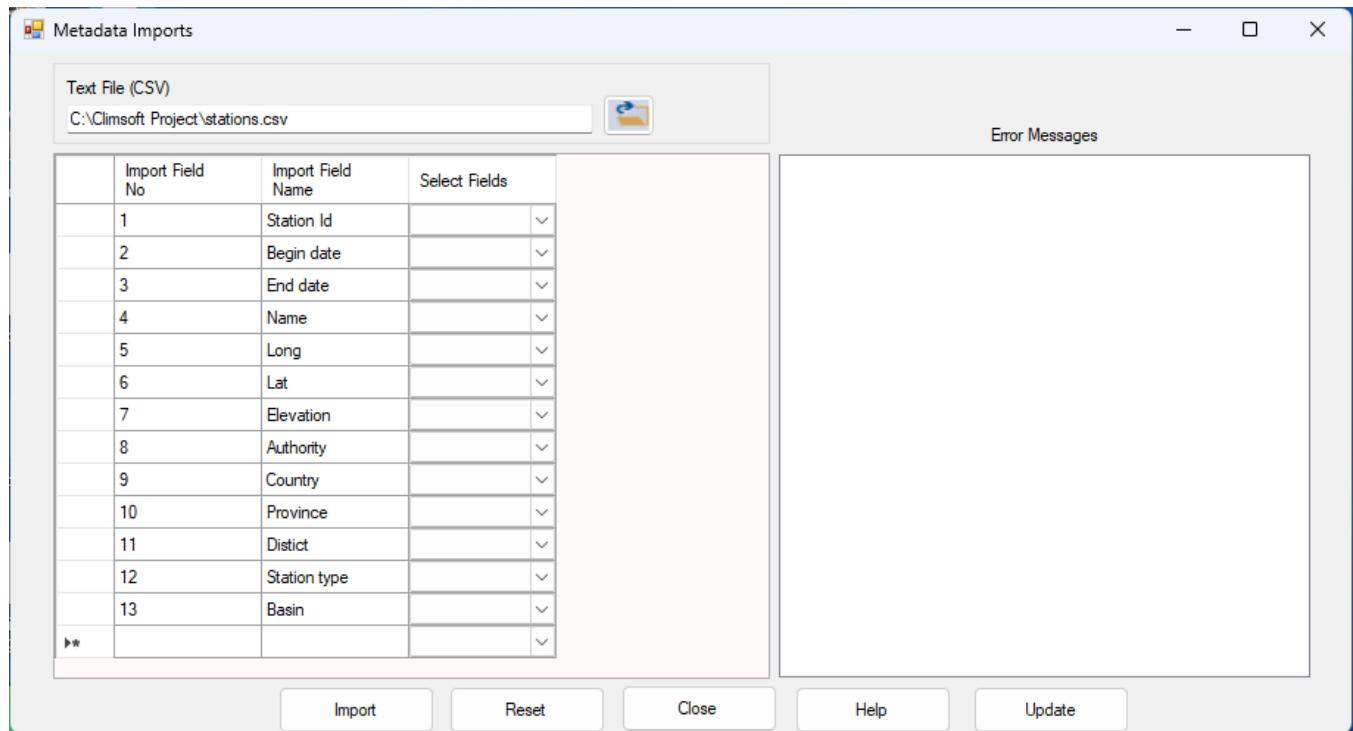

Figure 12: Importing stations metadata
- **Import** – Opens a dialog through which stations metadata in a text (csv) can be imported into Climsoft. By clicking the **Import** Command button the dialog in Figure12 below appears;
- From the Metadata Import dialog, Figure 12, open the text file containing the stations metadata;